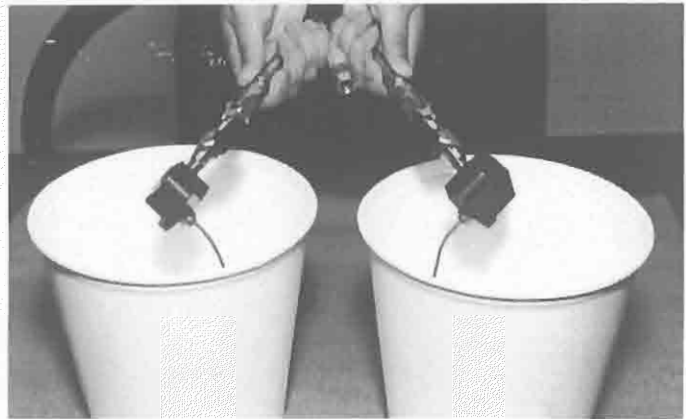
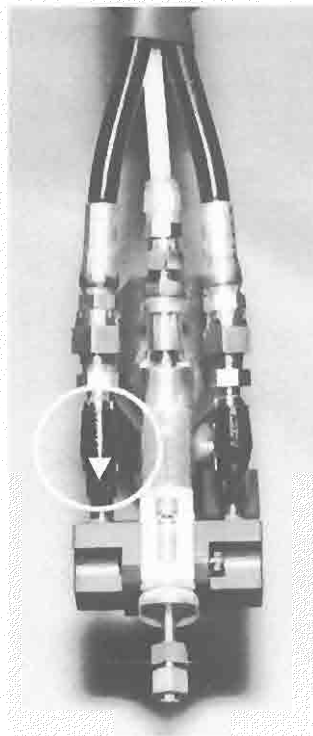

Fig. 1
Fig. 2
3. Place separate clean containers under each individual Side Block. Open manual Material Valves (black arrow forward, see Fig. 2 & 3) on each Side Block to allow trapped air to escape the Hose and material to flow into the containers until all air is purged from the material system. (see Fig. 1)
14. Turn Purge Air and Material Valves ON at Gun. (see Fig. 2 & 3)